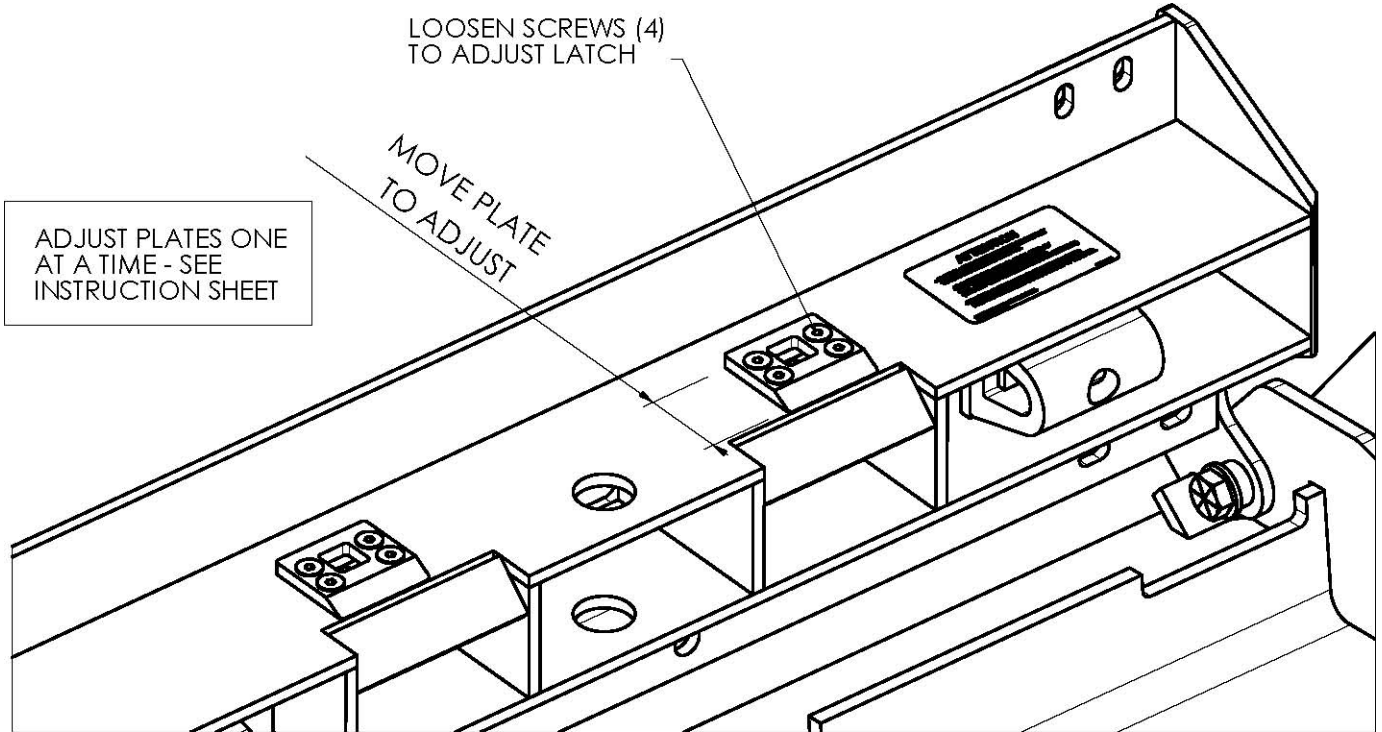

Fig. 1
2. Unlatch and lower the bumper. **Loosen** the four countersunk head screws in one of the latch plates, trying not to move the plate while doing so. *Refer to Fig. 1.*